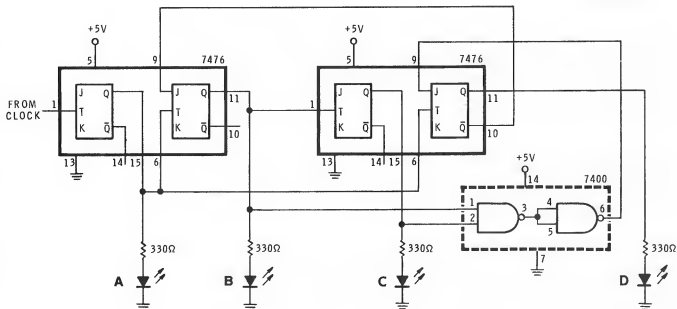

Figure 5-60
13. Wire the circuit shown in Figure 5-60. Change capacitor C_1 in the clock to $10\ \mu\text{F}$. Be sure to observe polarity when you install the capacitor. Check your finished circuit to make sure there are no wiring errors.